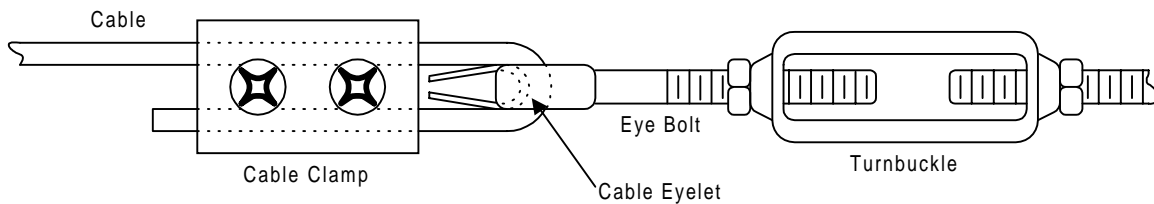

Figure 3
2. Install the half-arm with the angle cut and single hole into the arm bracket on the 1601 operator. Be sure that the bracket is positioned to install the arm in the DOWN position and that the angle cut is positioned as shown in Figure 3.